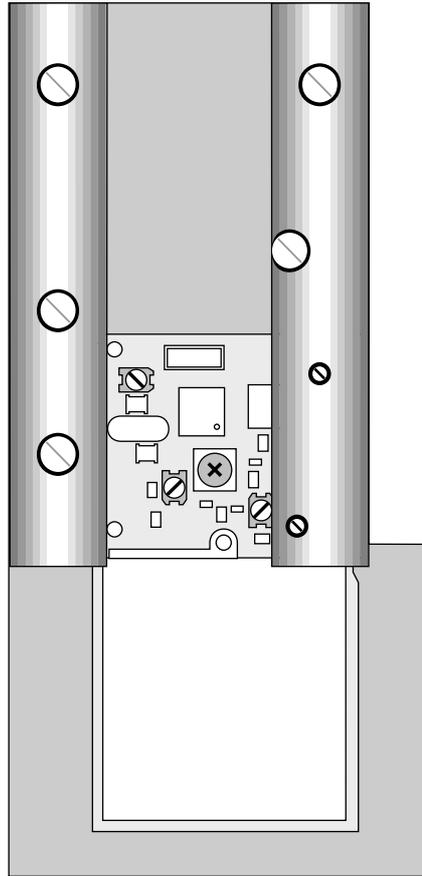

Figure 17. U912RXD placed in the alignment insert MAI-U912D.
- 2 Insert the receiver circuit board into the alignment insert as in figure 17 on page 17, then slide the insert into the test fixture and pull the lever to connect the test pins to the test points.
- 2 Insert the receiver circuit board into the alignment insert as shown in figure 17, then slide the insert into the test fixture and pull the lever to connect the test pins to the test points.